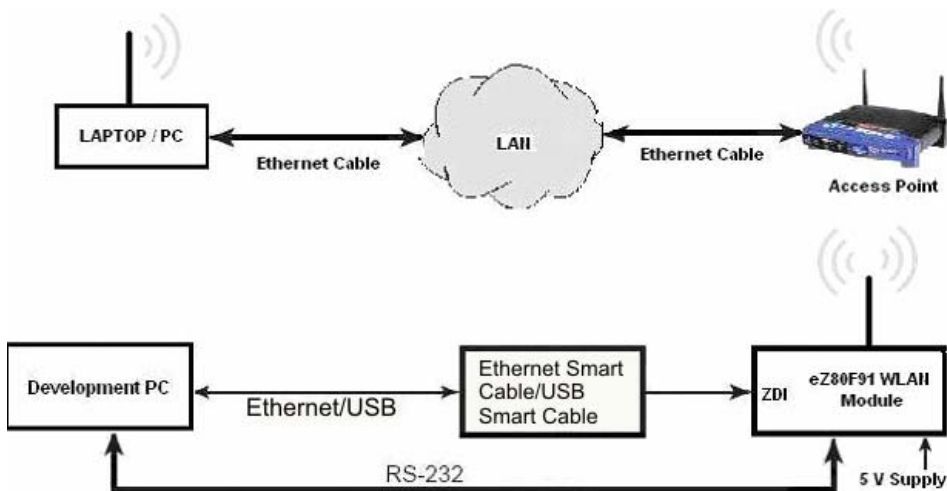

Figure 5. Hardware Setup for the ZTP WLAN Demo Application
Figure 5 displays the hardware setup for the ZTP Wireless Local Area Network (WLAN) Demo application that is used to demonstrate wireless data transfer.
► **Note:** *This is connected on your PC as displayed in Figure 5 on page 7.*
6. Set up an access point (AP) in the test area and power it ON. For information on how to set up the wireless router, see Configuring the Router on page 15.
1. Set up the hardware as displayed in Figure 5 on page 7.